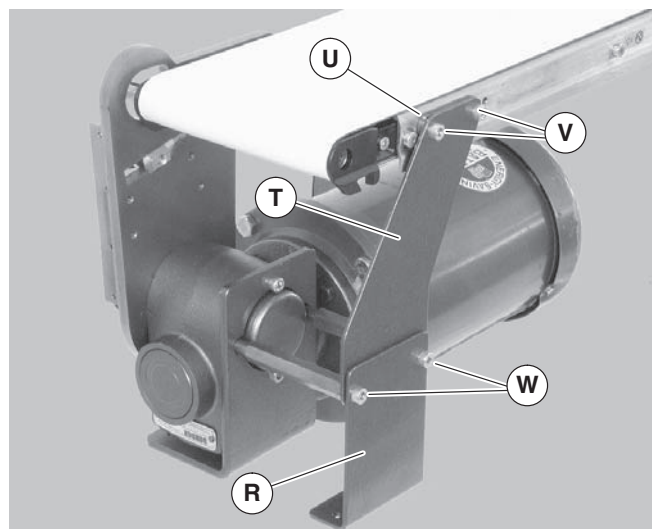

Figure 15
9. Install spacer (Figure 15, item U) (2100 & 6200 Only) and gearhead/conveyor support plate (T) with screws (V). Install end support bracket (R) with screws (W). Tighten screws (V & W) to 80 in-lb (9 Nm).